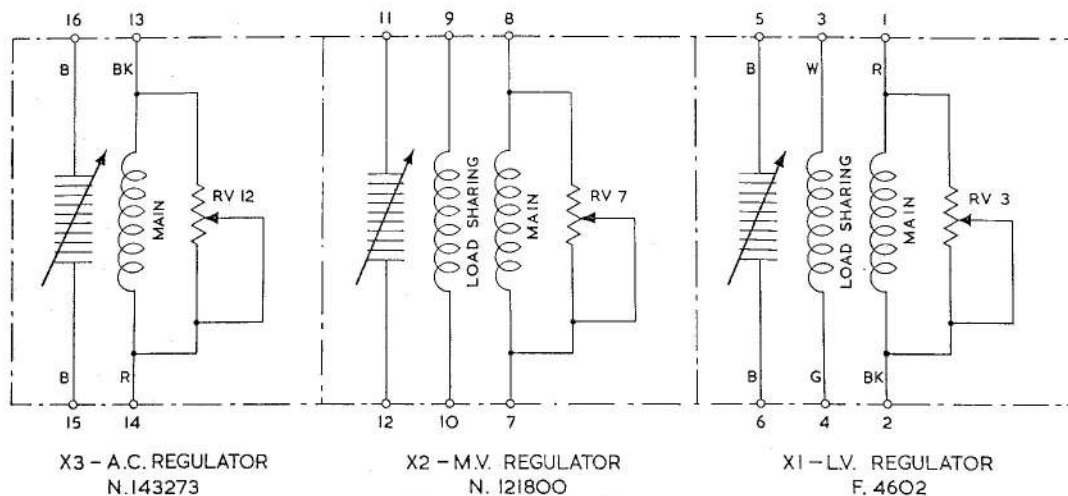

Fig. 3. Circuit diagram
11. A circuit diagram of the regulator unit is given in fig. 3. The 208 volt a.c., low voltage 28 d.c., and medium voltage 112 d.c. systems are combined in the U2704/1 transformer rectifier unit, and form the basic circuit. The two generator rotors are fed via a common positive supply, and the carbon